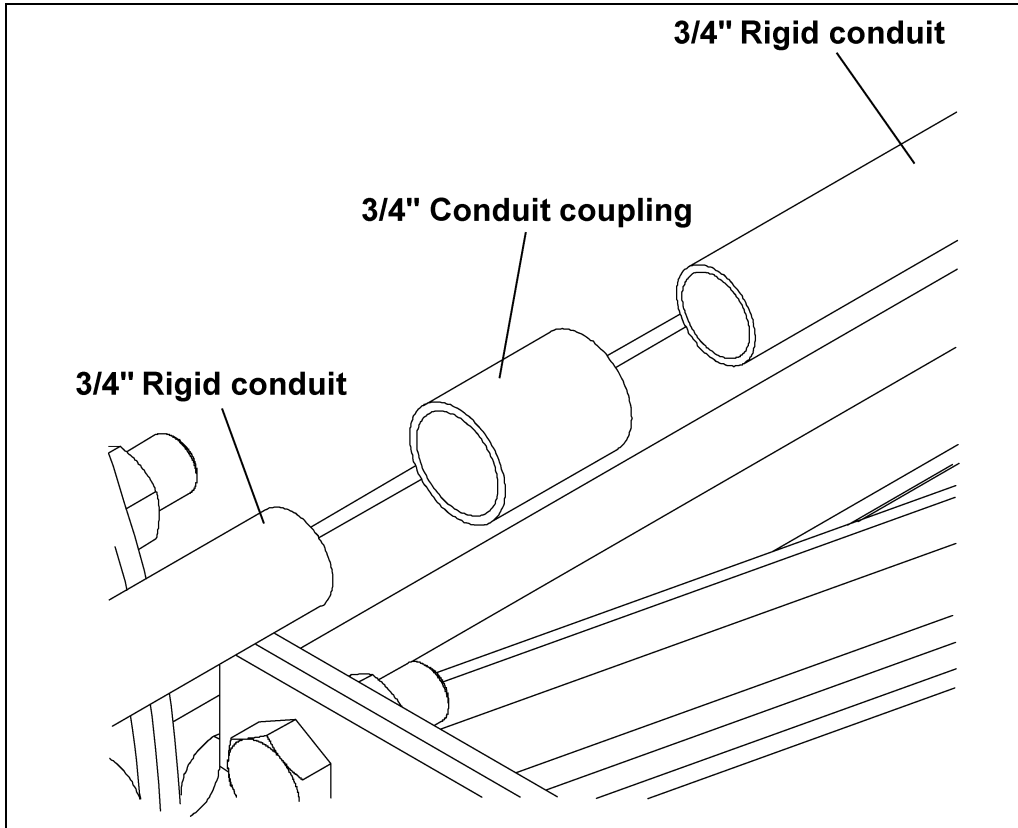

Figure 5AI
B. Connect the rigid conduit together using one 3/4" conduit coupling between each piece of conduit. (See Figure 5AI.)